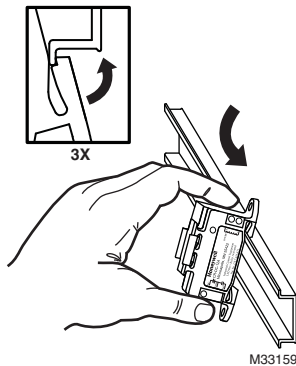

Fig. 2. Relay placed on rail.
1. The Command Relays may be mounted in any position using the (2) #8 x 3/4" Tek screws and the mounting holes in the base or snapped directly on to the 35mm DIN rail (see Fig. 2 and 3).